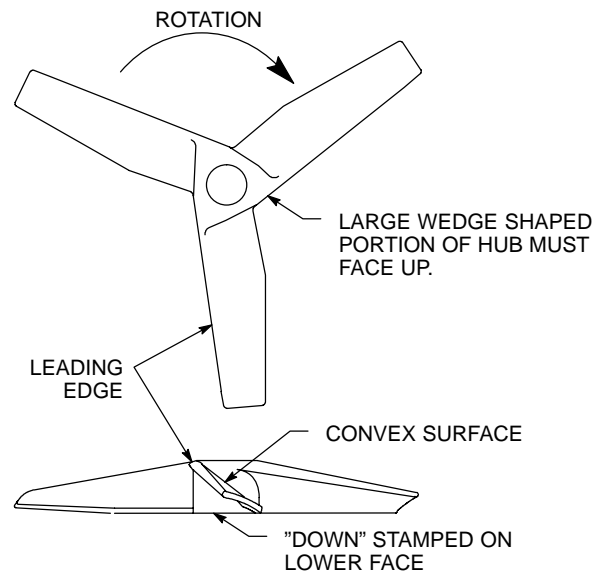

FIGURE 2 – IMPELLER ORIENTATION
- 4.1 Position the impeller(s) on the mixer shaft. Refer to the specification sheet for recommended dual impeller spacing. The larger wedge shaped portion of the hub body must face up towards the mixer. The bottom of the hub is stamped "DOWN". Refer to Figure 2 for general orientation reference. Tighten impeller set screws securely. For unusually severe conditions, the shaft should be spotted for the set screws.